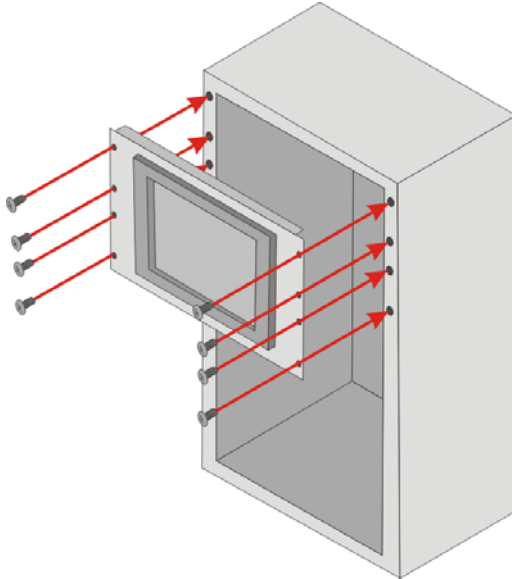

Figure 3-22: Install into a Rack/Cabinet
Step 4: Slide the panel PC with the attached rack/cabinet bracket into a rack or cabinet (Figure 3-22).
Step 5: Once the panel PC with the attached rack/cabinet bracket has been properly inserted into the rack or cabinet, secure the front of the rack/cabinet bracket to the front of the rack or cabinet (Figure 3-22).